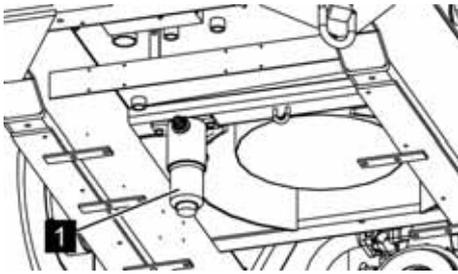

Fig. 145: Unscrewing the filter bowl
5. ▶ Carefully unscrew the filter bowl (Fig. 145/1).